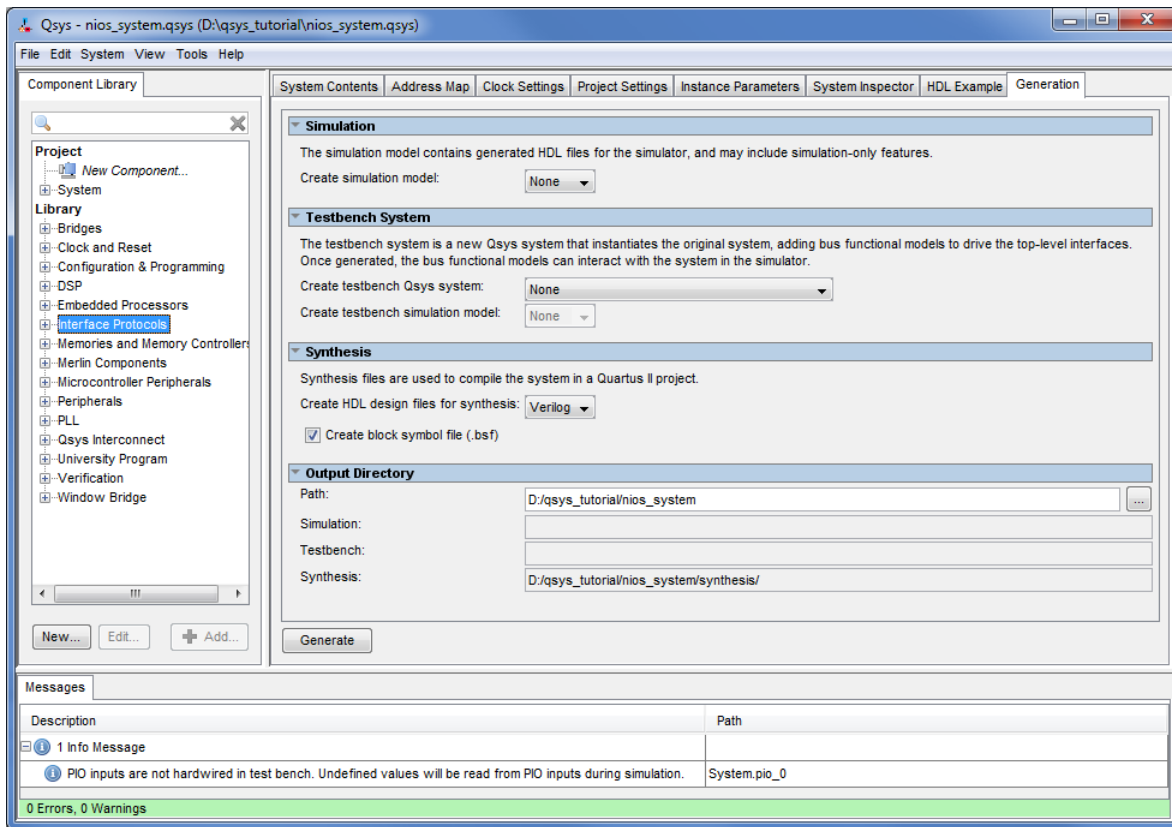

Figure 20. Generation of the system.
- Having specified all components needed to implement the desired system, it can now be generated. Save the specified system; we used the name *nios_system*. Then, select the **Generation** tab, which leads to the window in Figure 20. Select **None** for the options **Simulation > Create simulation model** and **Testbench System > Create testbench Qsys system**, because in this tutorial we will not deal with the simulation of hardware. Click **Generate** on the bottom of the window. When successfully completed, the generation process produces the message "Generate Completed".